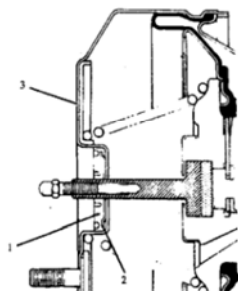

Fig.3.7-22
- (2) Under the condition that the seal pad frame has been installed to the assistant chamber seal pad, install them to the rear housing. The installation direction is as indicated in Fig.3.7-22.